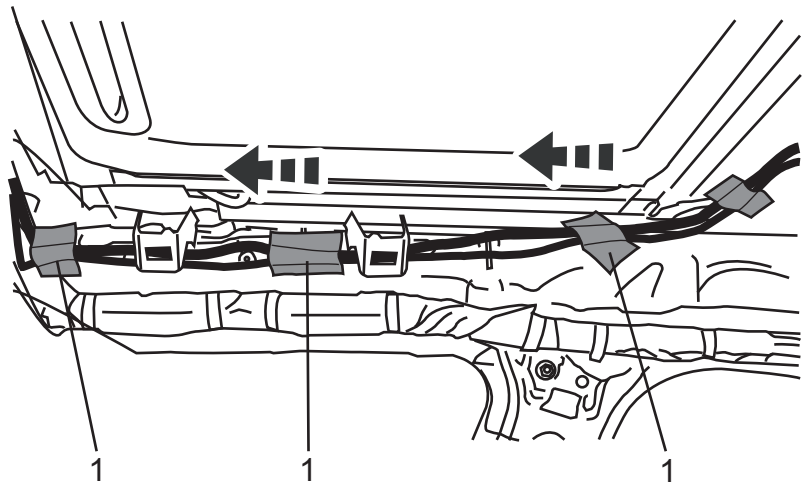

FIGURE 60
- 7.) ROUTE THE DVD MAIN HARNESS TOWARDS THE FRONT OF THE VEHICLE AND ABOVE THE AIRBAGS. SECURE WITH THREE PIECES OF TAPE (1). (SEE FIGURE 60)